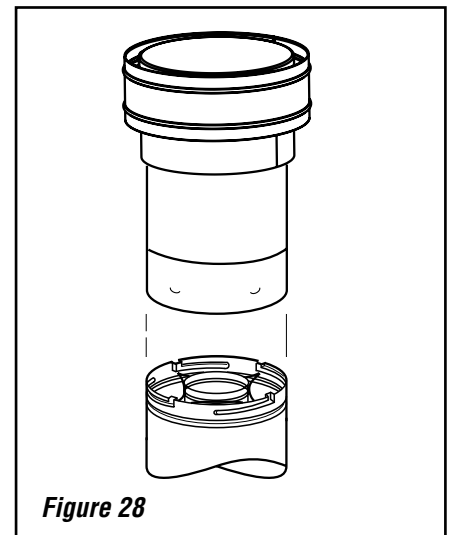

Figure 28
K. Install the vertical termination - The final step involves installation of the SV4.5CGV-1 Vertical Termination. Extend the vent sections to the height as shown in the "Vertical vent termination section" on **Page 8**. The SV4.5CGV-1 Vertical Termination (**Figure 28**) installs in the exact same fashion as any other **Secure Vent** section. Align the termination over the end of the previously installed section, adjusting the radial alignment until the four locking dimples of the termination are aligned with the inlets of the four incline channels of the last vent section. Push the termination down until it fully engages, then twist the termination clockwise running the dimples down and along the incline channels until they seat at the end of the channels.